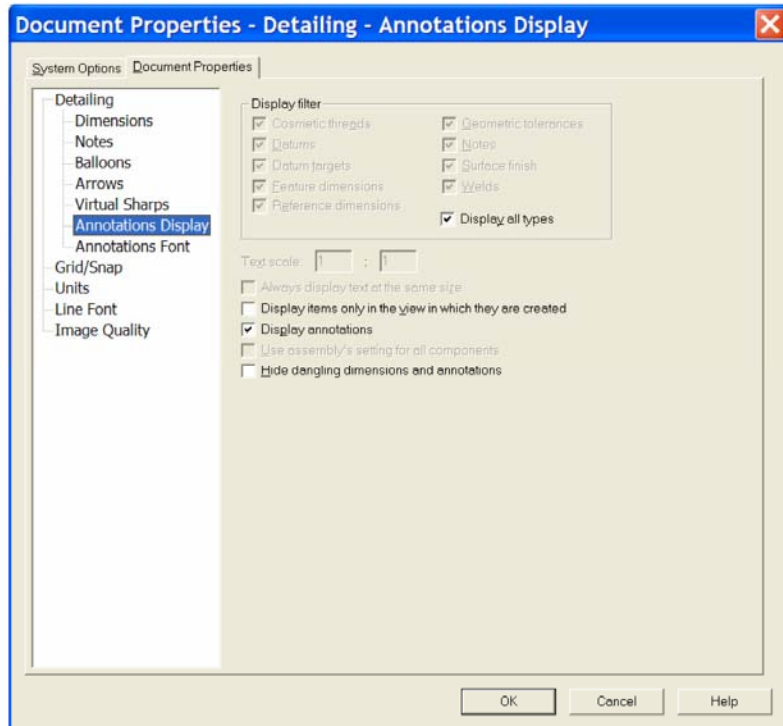

Figure 5
- Go to **'Annotations Display'** and make sure that **'Display all types'** is checked. See Figure 5.